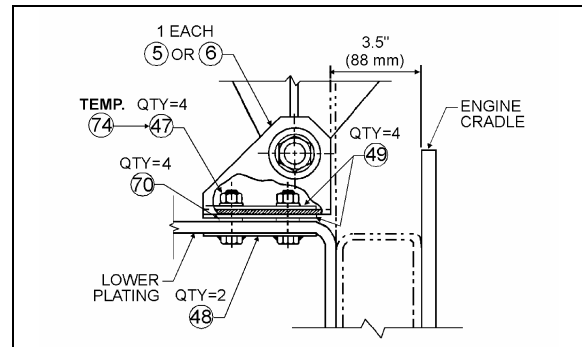

FIGURE 15: ANGLE SUPPORT 05014
1. Install both attachment assembly plates (P/N 051779) (48, Fig. 15) through lower plating and secure with four spring nuts (P/N 500666), (70, Fig. 15). Then install one spacer (P/N 050705), (49, Fig. 15) on each spring nut at both anchoring locations (Fig. 15).
mechanism support. Center with the slots in the floor at anchoring angle support (on some vehicles only). Vertical displacement of the fan clutch is made possible by slots at the base of the fan clutch (on some vehicles only) or by shimming with additional spacers at anchoring locations. Temporarily secure assembly with two nuts (P/N 500709), (74, Fig. 15) at both anchoring locations.
5. Check alignments again (steps 2, 3 & 4) then replace temporary anchoring nuts (P/N 500709) (74, Fig. 15) with four nuts (P/N 500714) (47, Fig. 15) and tighten using a wrench.